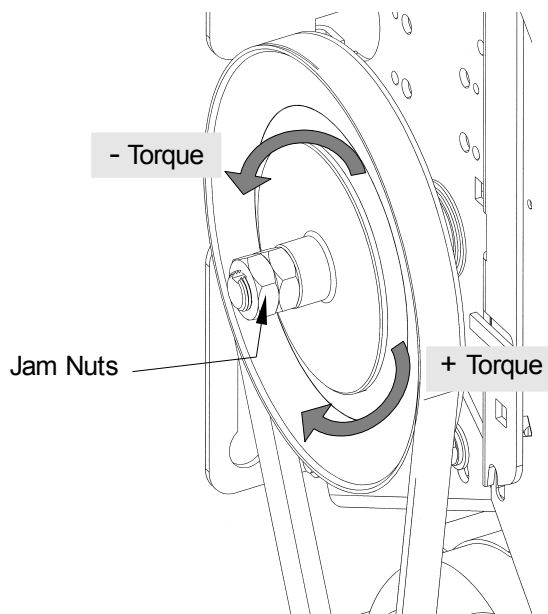

Figure 41 - Clutch Adjustment
1. Unlock the jam nuts with two (2) 15/16" keys, refer to Figure 41.